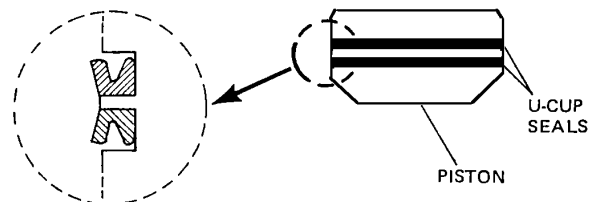

Figure 10. Piston Seal Replacement
6. Stretch the lubricated seals lightly to fit over the piston as shown in Figure 10). (Note that the U-cup seals are flared slightly at the outer edges when properly installed.) Install the lower seal first with the U-cup shoulders pointing downward.